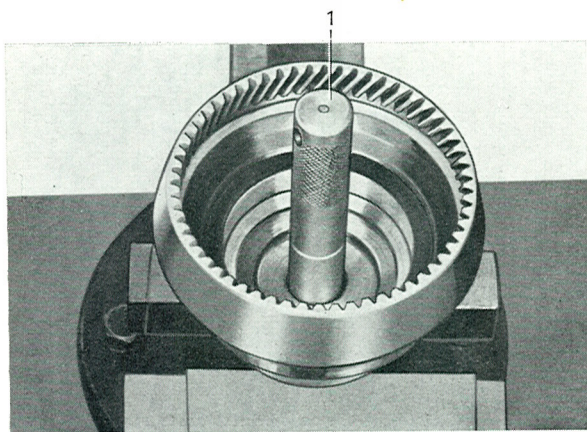

Fig. 4-60. Fitting the bush, output shaft
1. Push the bush on to the output shaft with drift SVO 2417, see Fig. 4-60. Press the front bearing to the output shaft with drift SVO 2412.